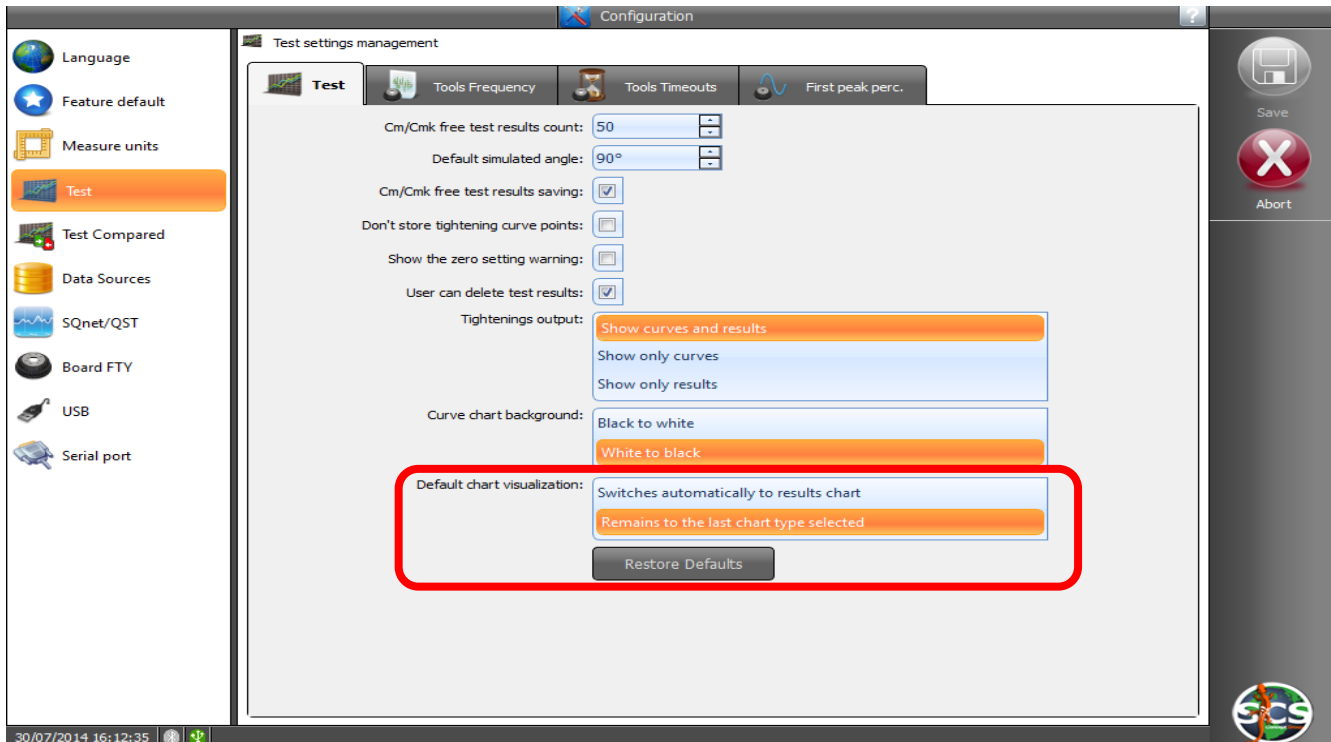

Figure 2
- now, in the **Configuration/Test** user interface, is possible to indicate the **default trace chart visualization modality** during the execution of a test. In fact, as default behaviour, the torque results chart is visualized at the end of every tightening but, it also possible, to maintain the visualization of the last chart typology (torque results, angle result, torque/time, angle/time) that the user has chosen (See **Figure 2**).